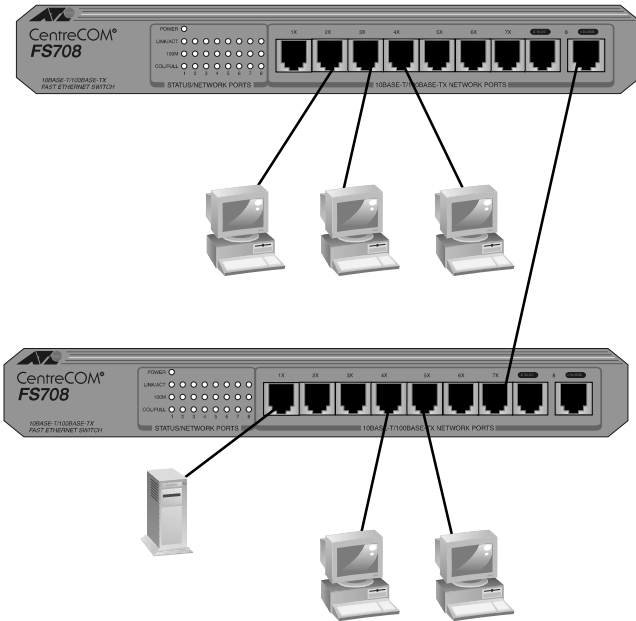

Figure 5 Cascading Switches
2. Use a straight-through UTP RJ-45 cable to connect the first switch to the second switch. See Figure 5.